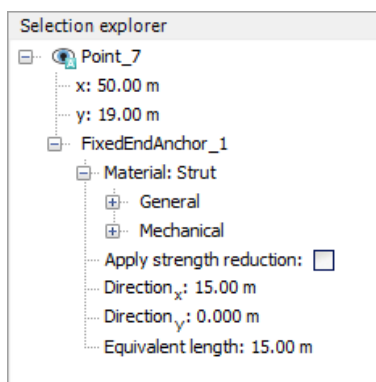

Figure 3–4: Parameters for fixed-end anchors in the Selection explorer
- 7 Enter an **Equivalent length** of 15m corresponding to half the width of the excavation as shown in Figure 3–4 \(p. 60\).